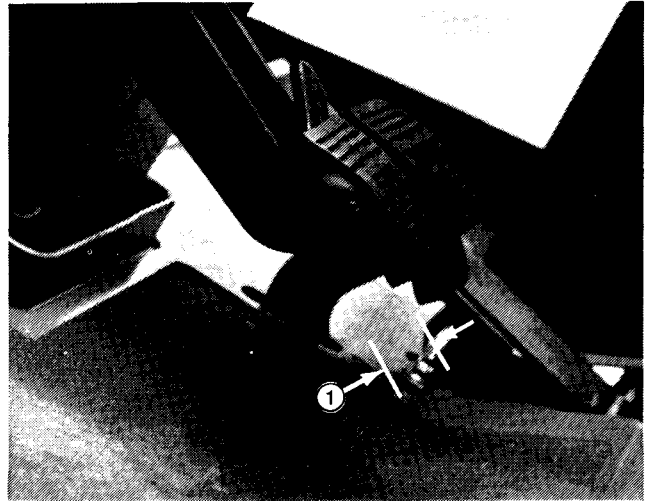

Figure 9
Adjust the brakes when there is more than one (1) in. of "free travel". Free travel is the distance the brake pedal moves before braking resistance is felt (Fig. 9).
B. Loosen top jam nut on threaded end of brake cable (Fig. 9).